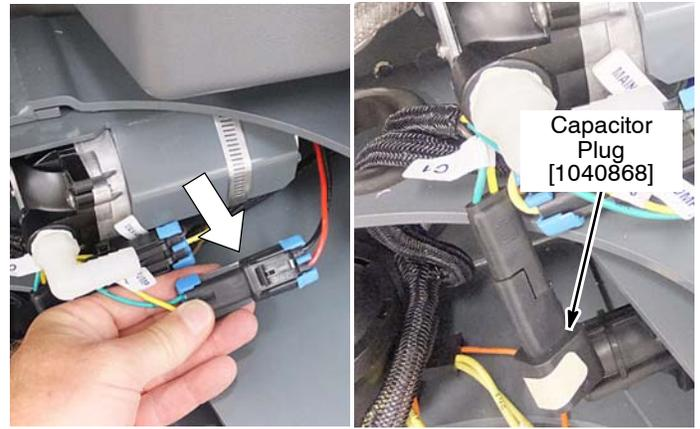

Fig. 19
- Connect the ec-H2O wire harness pump connector to pump (Figure 19). Connect the capacitor plug into ec-H2O harness connector (C).